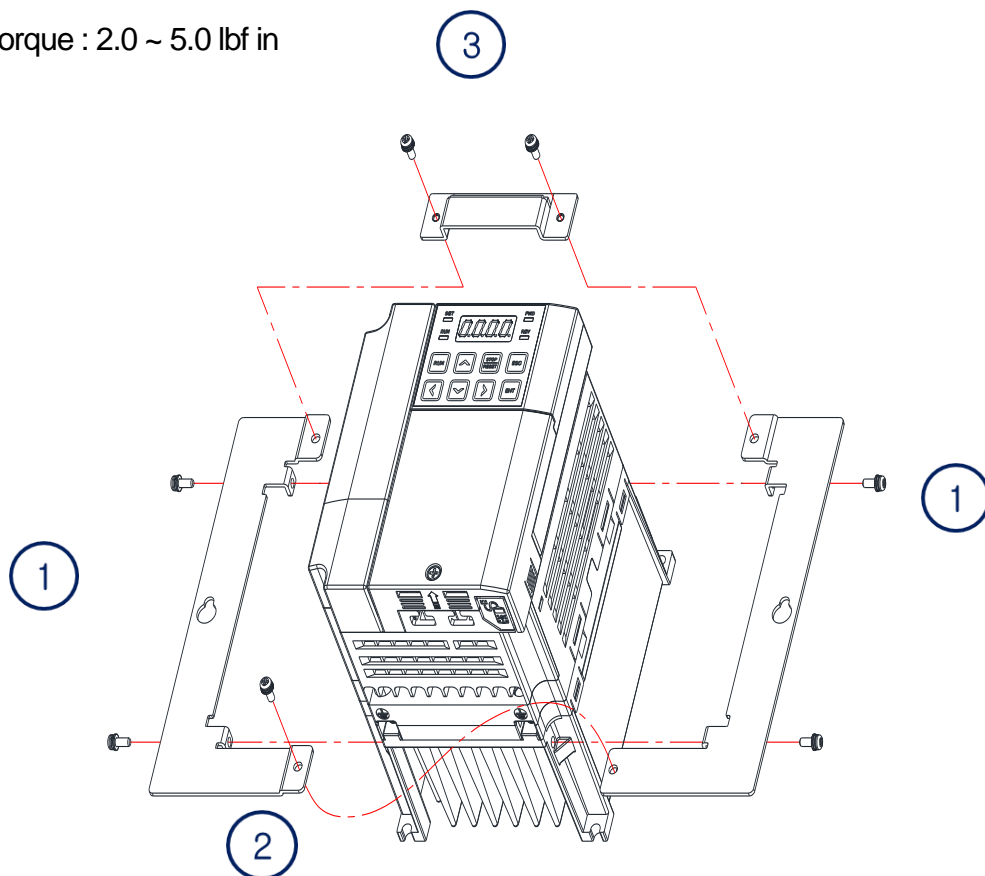

Figure 1.
Figure 1 below is representative of the 1 HP through 7.5 HP range.
- ① Install the side pieces of the flange option (left and right) to the base of the inverter using the provided hardware as shown in the Figure 1. Do not completely tighten screws at this time.
- ② Install one screw at bottom center of the flange.
- ③ Install the top piece of the flange option.
- ④ Tighten screws to the specified torque.